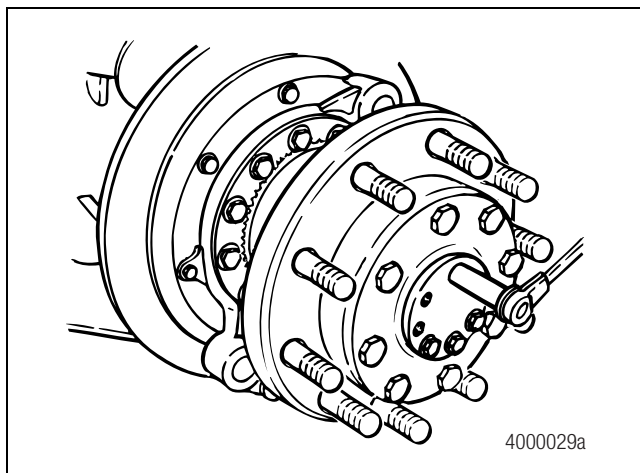

Figure 3.4
1. Remove the capscrews and washers that connect the hubcap to the drive flange. Remove the hubcap. Figure 3.4.